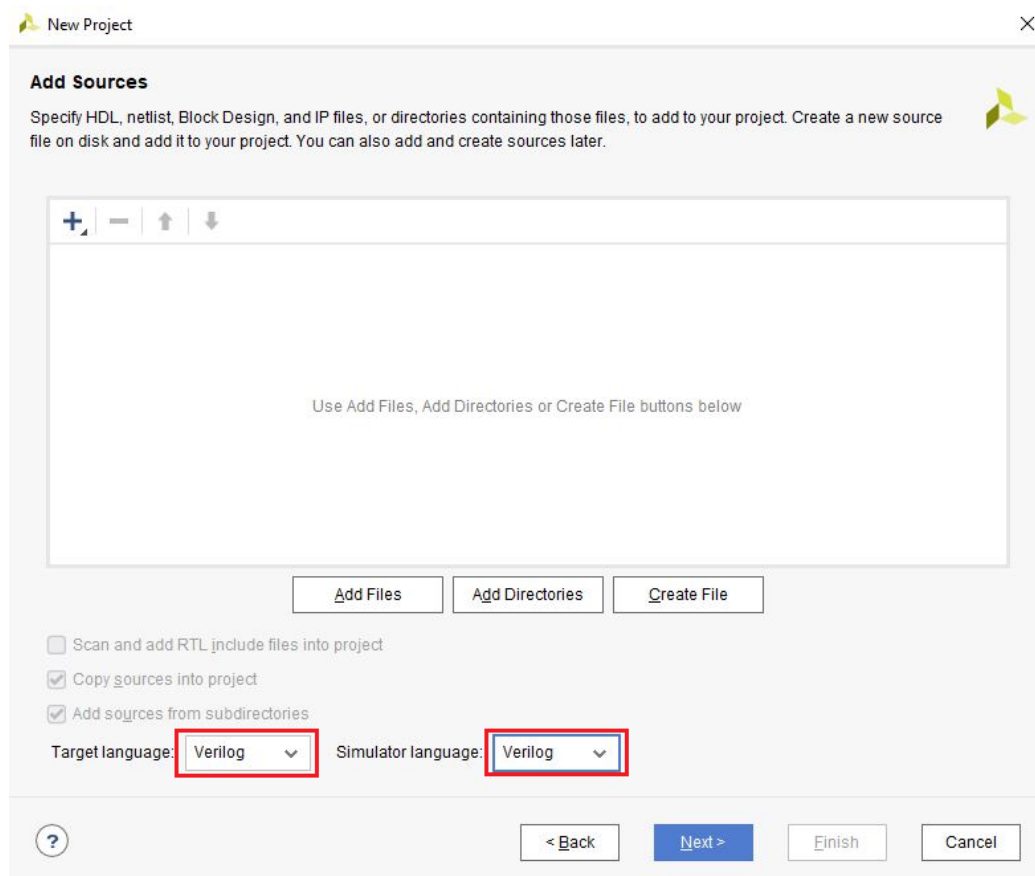

Figure 5: Selecting Language in Add Source form
- 2.6 Using the drop-down buttons, select **Verilog** as the *Target Language* and *Simulator Language* in the *Add Sources* form as shown in **Figure 5**.